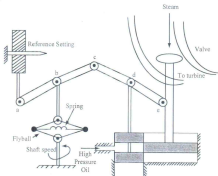

Figure 5: Watt governor system
5. The schematic diagram of Watt speed governor is shown in figure 5. Explain its operation in detail if the load gets increased or decreased while the reference setting remains unchanged. 25